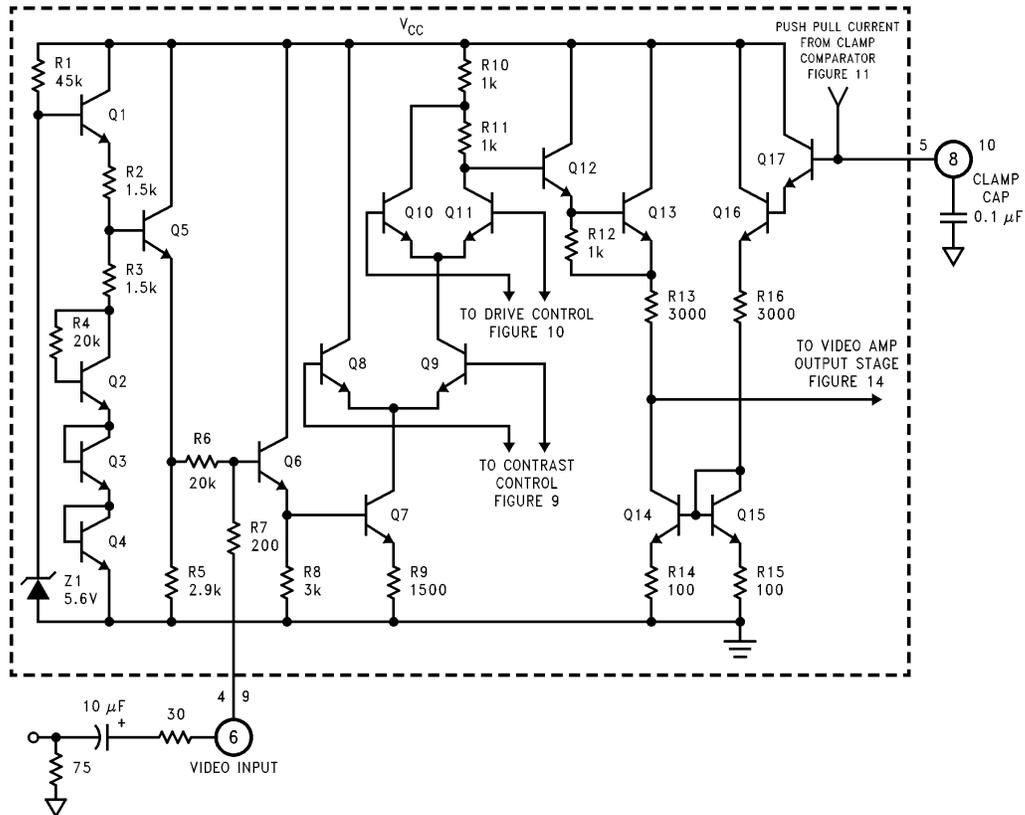
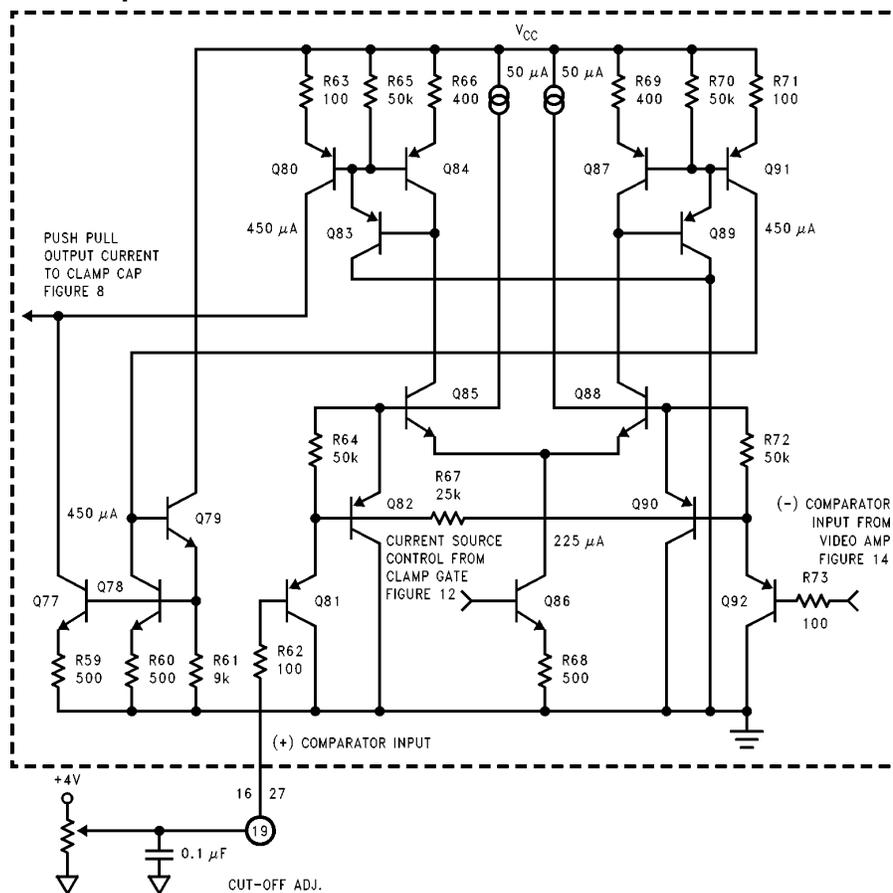
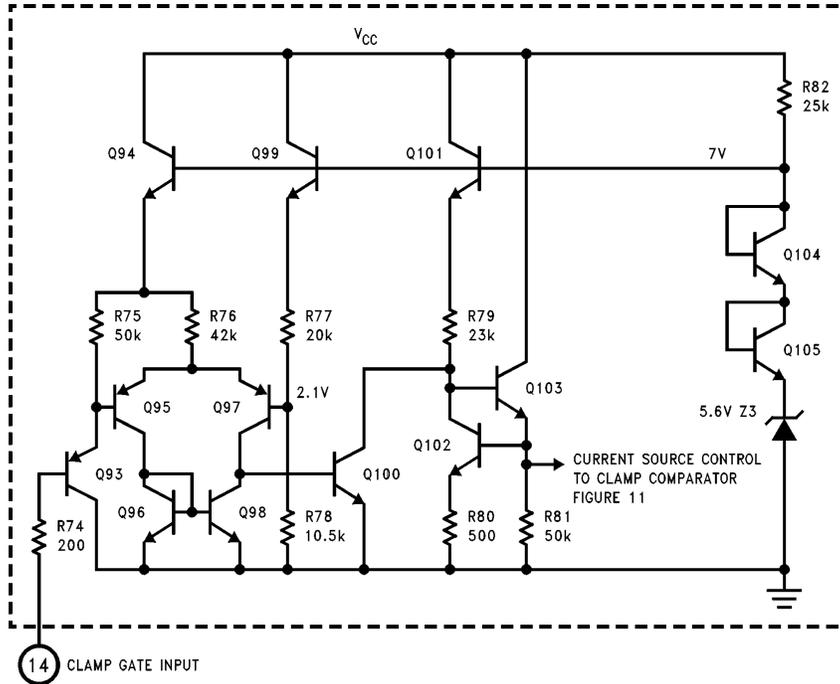
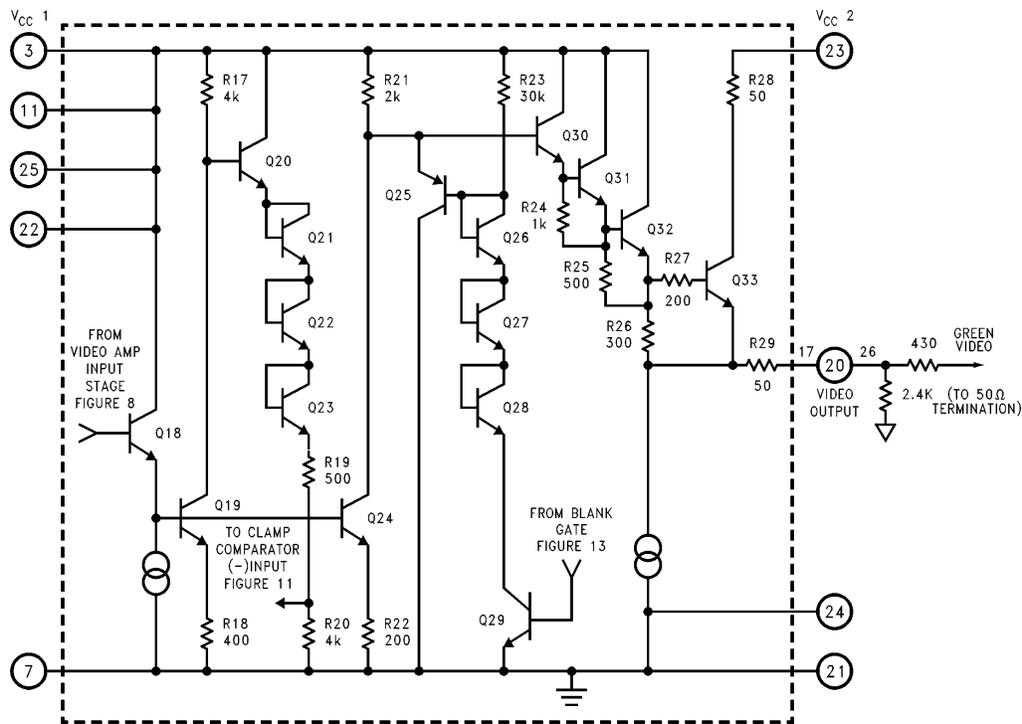

FIGURE 8. Simplified Schematic of LM1205 Video Amplifier Input Stage
FIGURE 11. Simplified Schematic of LM1205 Clamp Comparator Circuit
FIGURE 12. Simplified Schematic of LM1205 Clamp Gate Circuit
FIGURE 14. Simplified Schematic of LM1205 Video Amplifier Output Stage with Blank Circuit
Figure 8 is a simplified schematic of one of the three video amplifiers input stage along with the recommended external components. The IC pin numbers are circled and all external components are shown outside the dashed line. The video
channel has its own drive control circuit. Increasing the voltage to the base of Q11 increases the video gain (drive) of the LM1205. R10 and R11 are of the same value, but R10 is common to both Q10 and Q11. If all the current was flowing through Q10, the video amplitude would only be half of the maximum gain (all current flowing through Q11). This gives the drive control a total gain adjustment range of 6 dB. Since the drive control is only used to balance the color of each channel a small adjustment range is desirable. Q12 through Q17 are part of the final section shown in Figure 8. DC restoration is done at this stage. The clamp comparator (Figure 11) drives the clamp cap at pin 8 to a voltage that sets the correct black level of the video signal. This cap is also connected to the base of Q17. Q17 and Q16 are one half of the darlington differential pair. The clamp cap voltage establishes the current flow through R16, Q15, and R15. With the bases of Q14 and Q15 held to the same voltage the current through Q15 is mirrored into Q14 and the other half of the differential pair, Q12 and Q13. By this current mirror the voltage at the collector of Q14 is set to the correct DC value for the video signal by controlling the voltage drop across R13, completing the DC restoration.
Pin 1 of the contrast control output is held at a constant voltage two diode drops below  $\frac{1}{2}V_{CC}$ . To generate this reference the base of Q51 is held at exactly  $\frac{1}{2}V_{CC}$ . R44 and R45 form a voltage divider. With both Q53 and Q54 connected as diodes the voltage at the junction of R44 and R45 is  $\frac{1}{2}V_{CC}$  plus one diode drop. Q52 is a buffer to this reference voltage, generating exactly  $\frac{1}{2}V_{CC}$  at its emitter. Q51 is used to drive the bases of Q49 and Q50 to one diode drop below the reference voltage. Q50 is used to further buffer the reference voltage to the base of Q9 (see *Figure 8*) and the corresponding transistors in the other channels. Q48 is used to bias the collector of Q49 to  $\frac{1}{2}V_{CC}$ , the same voltage as the collector of Q47 when the differential pair is balanced. This keeps the characteristics of Q47 and Q49 well matched. Going back to Q44 and R33; these parts set up a current source that varies the current through R36. With a 2V contrast voltage the differential pair is balanced, meaning that the voltage drop across R36 is  $\frac{1}{2}V_{CC}$ . Q45 buffers the voltage at R36, driving the bases of Q46 and Q47. Q46 further buffers the voltage, driving the base of Q8 (see *Figure 8*) and the corresponding transistors in the other two
channels. In the balanced condition the voltage at pin 2 will also be two diode drops below  $\frac{1}{2}V_{CC}$ , giving a well balanced drive to the differential pair consisting of Q8 and Q9 in the video amplifier input stage. With the contrast voltage set to 0V, the voltage at pin 2 will increase by about 400 mV to 500 mV. A 4V contrast voltage decreases the voltage at pin 2 by about 400 mV to 500 mV from the balanced condition. Reviewing *Figure 8* note that decreasing the voltage at pin 2 will decrease the current flow through Q8. Thus the current flow through Q9 increases, increasing the gain of the LM1205. So increasing the contrast control voltage at pin 12 increases the gain of the LM1205. The contrast control voltage from Q46 and Q50 is common to all three channels. To minimize crosstalk it is necessary to add a decoupling capacitor of 0.1  $\mu$ F across R37 and R40. Since this can only be done externally, these two nodes are brought out to pins 1 and 2. The 30 $\Omega$  resistor is added in series with the capacitor for increased stability. To prevent a destructive current surge due to shorting either pins 1 or 2 to ground R38 was added for current limiting.
*Figure 11* is a simplified schematic of the clamp comparator circuit. Q85 and its input transistors, Q81 and Q82 are one half of the differential pair. The base of Q81 is connected to pin 19 via R62. This is the positive input to the comparator. Q88 and its input transistors, Q90 and Q91 are the other half of the differential pair. The base of Q92 is connected to the junction of R19 and R20 in *Figure 14* via R73. This is the negative input to the comparator. R73 is included only to match the input characteristics of the positive input, which requires the 100Ω resistor. The negative comparator input is the feedback from the output stage as briefly described in the block diagram and covered in more detail in the output stage circuit description. Q86 is the current source for the differential pair. It is turned on and off by the output of the clamp gate circuit (*Figure 12*). Q102 of the clamp gate circuit has a current flow of about 225 μA when it is turned on. This current is mirrored into Q86. Assume that the inputs to the comparator are equal, making the differential pair balanced. In this condition Q85 and Q88 each have a current flow of 113 μA. Looking at the Q85 side of the circuit, Q84 will also have 113 μA of current flow. Q80 is set up as a current mirror to Q84, but its emitter resistor is one fourth the emitter resistance of Q84. Thus the current flow for Q80 is four times the current flow thru Q84, or 450 μA. Q83 has been added to help drive the base of Q80, increasing the accuracy of the current mirror. The collector of Q80 directly charges the capacitor as a current source of 450 μA. R65 is added to discharge the charge stored in the bases of Q80 and Q84. This is necessary to quickly turn off the current charge of the clamp capacitor as the comparator section is turned off. Q87, Q89, and Q90 work in exactly the same way. However, the collector of Q91 drives another current mirror with the 450 μA. This current flows thru Q78. Q77 is a current mirror with Q78, thus 450 μA also flows thru Q77. Q79 has been added to help drive the base of Q77, again adding to the accuracy of the current mirror. Since Q77 is on the ground side of the circuit it discharges the clamp
Figure 12 is a simplified schematic of the Clamp Gate circuit. A voltage reference is setup by Z3 and by Q104 and Q105 connected as diodes, generating a 7V base drive to Q94, Q99 and Q101. Q94 is used to bias the input stage. This stage is designed to accept TTL levels at pin 14. Q95 and Q97 form a differential pair. The base of Q97 is set to 2.1V by Q99 driving the voltage divider formed by R77 and R78. In a balanced condition the base of Q95 is also at 2.1V. Q96 is connected as a diode and the current flow thru it is mirrored into Q98. Also the input to pin 14 would be one diode drop below 2.1V, or around 1.4V. R74 is added to the
ence is that the output stage is driven from the opposite side of the differential pair. Thus Q111 is connected as a diode instead of Q109. With the input at pin 13 at a low level Q108 is turned on, also turning on Q29, the output transistor. Q29 is part of the blanking circuit in the output stage shown in Figure 14. When Q29 is turned on the output is clamped to a blanking level that is "blacker than black", allowing blanking to be done on the cathodes of the CRT.
Figure 14 is a simplified schematic of the Video Amplifier Output Stage including the blanking circuit. Q18 serves as a buffer between the DC restoration stage shown in Figure 8 and the output stage. A current source is used to fix the current flow thru Q18 keeping it well within its operating range. The emitter of Q18 drives the bases of Q19 and Q24 with the current thru Q24 being twice that of Q19. Q19, along with Q20 thru Q23 duplicate the actual output stage going to pin 20. Q19 inverts the video signal (note that the video signal was inverted at Q7 in Figure 8). With two internal inversions of the video signal in the LM1205, the output is non-inverted. The collector of Q19 gives a gain of  $-10$  to the video signal and drives the base of Q20. Q21 through Q23 are all connected as diodes with the emitter of Q23 driving R19 and R20. The junction of R19 and R20 is connected to the base of Q92 via R73 (shown in Figure 11), this being the feedback to the negative input of the clamp comparator. This stage is independent of the actual output stage at pin 20, but is where the feedback is done for DC restoration. Therefore it is possible to blank the actual output stage below the black level without affecting the DC restoration feedback loop. Q24 is the equivalent part of Q19 in the actual output stage. It also inverts the video signal with a gain of  $-10$  and drives the base of Q30. Q30 thru Q32 each give a diode drop to the level of the video signal, similar to being connected as diodes. Being connected as emitter-fol-
Figure 14 also shows the power and ground pins to the LM1205. All the  $V_{CC1}$  pins (pins 3, 11, 22, 25) are all internally connected together. A 0.1  $\mu\text{F}$  bypass capacitor must be located close to each pin and connected to ground. Further bypassing is done by a 100  $\mu\text{F}$  capacitor. This capacitor needs to be located on the board close to the LM1205. Pin 23 is the  $V_{CC2}$  pin. This pin may need a 10 $\Omega$  resistor in series with the input power. A 10  $\mu\text{F}$  and a 0.1  $\mu\text{F}$  bypass capacitors must be located close to pin 23. Correct bypassing of pin 23 is **very important**. If the bypassing is not adequate then the outputs of the LM1205 will have ringing, or even worse they may oscillate. The ground side of the bypass capacitors at pin 23 must be returned to a ground plane with no interruptions from other traces between these capacitors and the ground pins 21 and 24 of the LM1205.